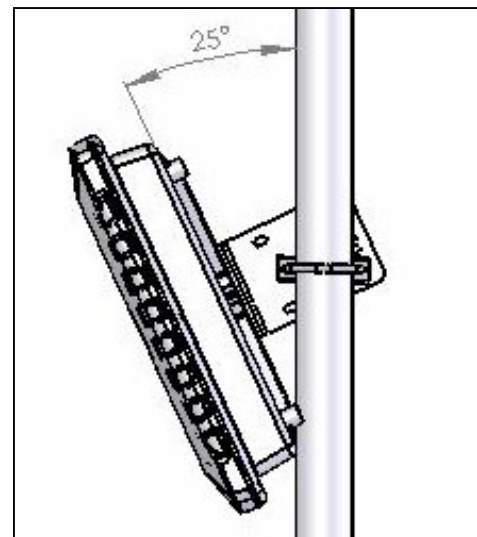

Figure 9. Setting tilt angle
4. The Econo-bracket can be mounted through different holes to achieve the desired tilt angle of the antenna. (see figure 9).